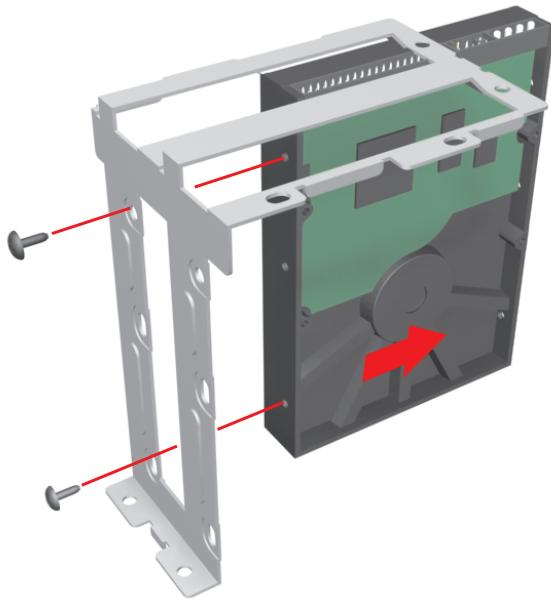

Figure 11. Removing the Original Hard Drive
1. Using a Phillips-head screwdriver, unfasten the screws attaching the drive to the basket. Refer to Figure 11.